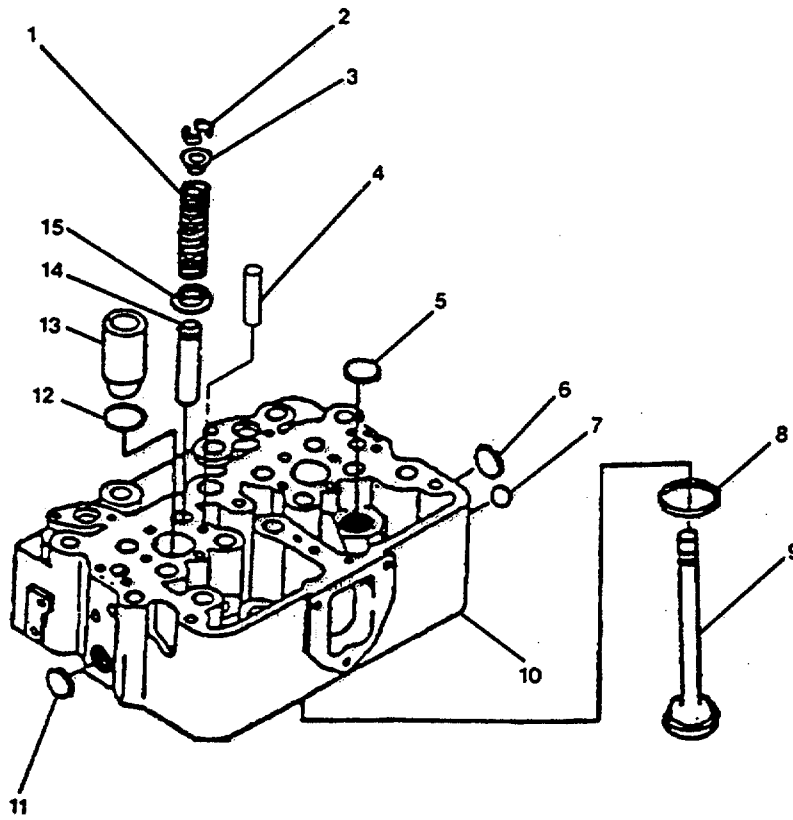

FIGURE 4-8. Cylinder Head Group.
- (1) Be sure that the valve spring compressor stand is fastened to the work bench.
- (2) Align the center of the cylinder head with the plunger of the compressor stand.
- (3) Position the compressor plate on the cylinder head so the valve stems will be in the center of the holes in the plate.
- (4) Pull down the handle on the stand. Make sure the valve stems stay in the center of the holes.
- (5) Bring the handle all the way down so the locking pin will engage the hole in the plunger. The locking pin holds the plunger against the plate that compresses the springs.
- (6) Remove the valve spring retainer locks (2, Figure 4-8).
- (7) Push down on the stand handle and disengage the plunger. Raise the plunger from the cylinder head.
- (8) Remove the helical compression springs (1, Figure 4-8), helical compression spring seats (15, 3), and engine poppet valves (9) from the cylinder head (10).
- d. Remove the pipe plug (12, Figure 4-8).